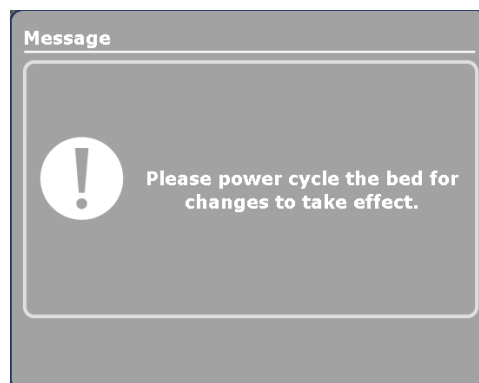

Figure 38: Cycle Power Screen
5. After pressing the **Close** button, a cycle power screen (Figure 38) will be displayed stating to cycle power on the bed.
6. To cycle power on the bed, turn the battery disconnect switch to **OFF** (O) then unplug the power cord from the wall outlet. Plug the power cord back into the wall outlet then turn the battery disconnect switch back **ON** (I).
4. After pressing the **OK** button, a cycle power screen (Figure 38) will be displayed stating to cycle power on the bed.
5. To cycle power on the bed, turn the battery disconnect switch to **OFF** (O) then unplug the power cord from the wall outlet. Plug the power cord back into the wall outlet then turn the battery disconnect switch back **ON** (I).